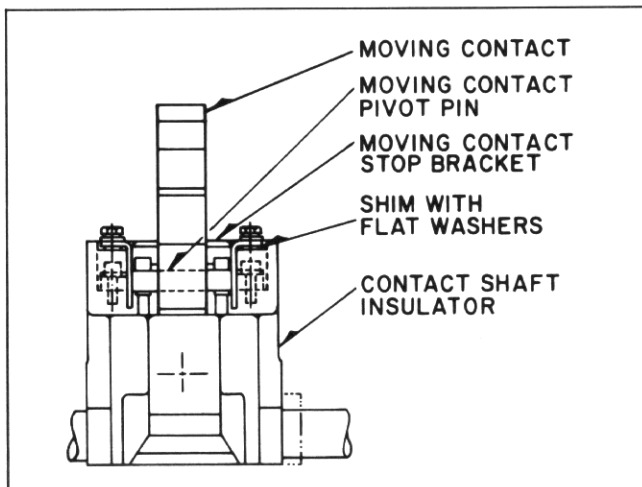

Fig. 9 Moving Contact Adjustment (Dwg. 3513C83)
4. In the event initial contact forces or contact touch points are not within allowable limits, adjustment may be made by increasing or decreasing the number of flat washers under the stop bracket mounting lugs as shown in Figure 9.